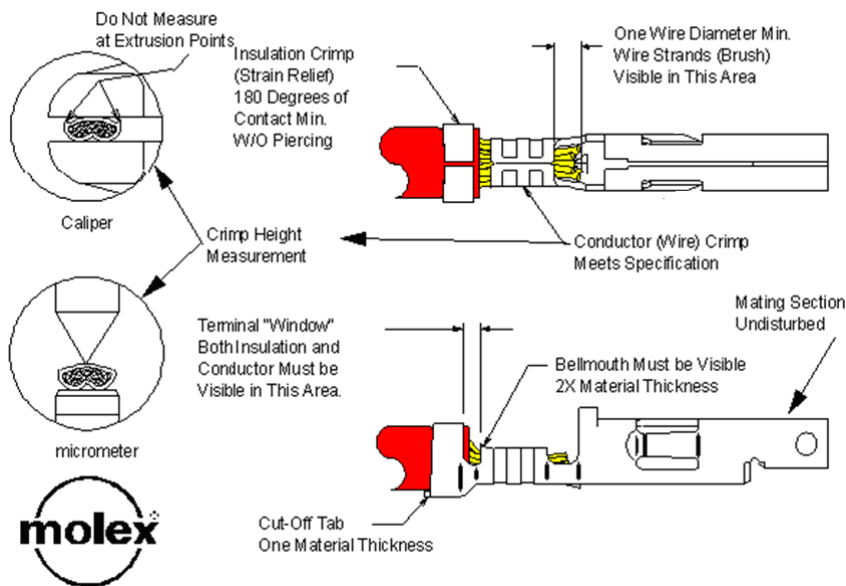

FIG. 9
5.1 An example of a properly performed crimp is seen below ( Fig.9) :